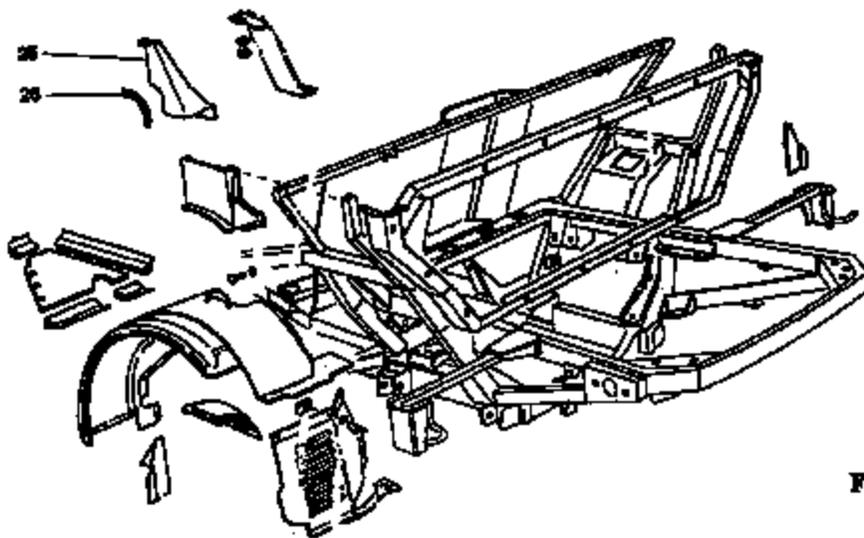

FIGURE 2
- 28) Remove the sheet metal panel (#25 figure 2)
Ensure that the protective rubber strip (# 26 figure 2) stays in place.